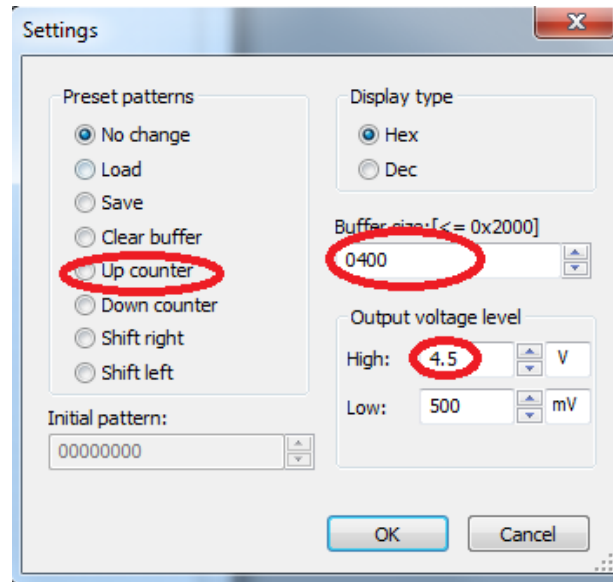

Figure 3. Setting the panel of the word generator.
- As indicated in Figure 3, change “Buffer size” from “0400” to “0010” and select “Up counter”. This will generate a 4-bit output from “0b0000” to “0b1111”. Change the output voltage level from 4.5 V to 5.5 V (The 0.5 V can work as the input variance error for your system. You can also observe that the initial low voltage is 500mV, rather than 0V.), as we will use the CMOS6V gates in Multisim. Then click “OK”.